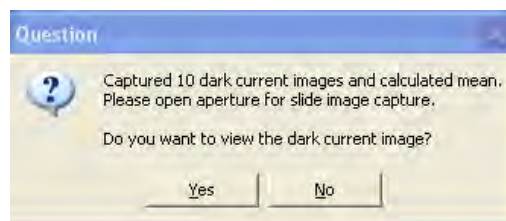

Figure 7. Dark Current Message Window
13. Once the dark currents are captured the following message to begin the scan appears next (see figure 7). **Do not click Yes or No yet**